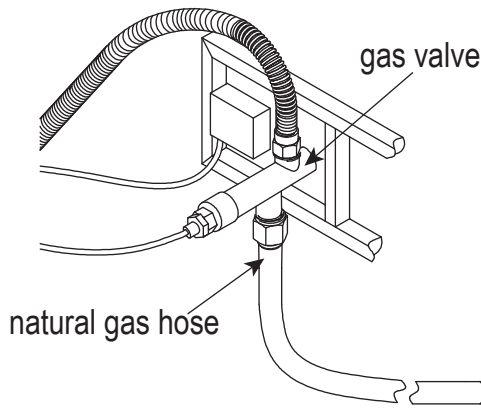
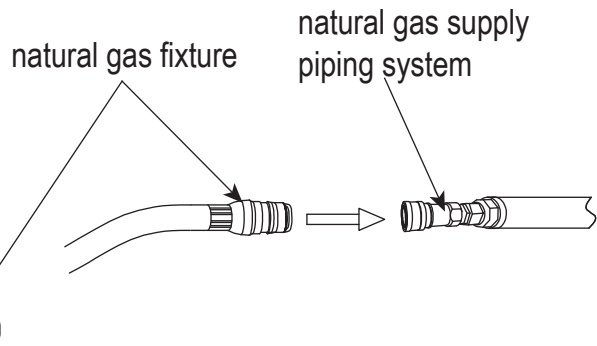

Figure 11
Figure 12
- Connect the natural gas hose with the gas valve by screwing clockwise tightly (See Figure 11). Plug the natural gas fixture into the natural gas supply piping system (See Figure 12).